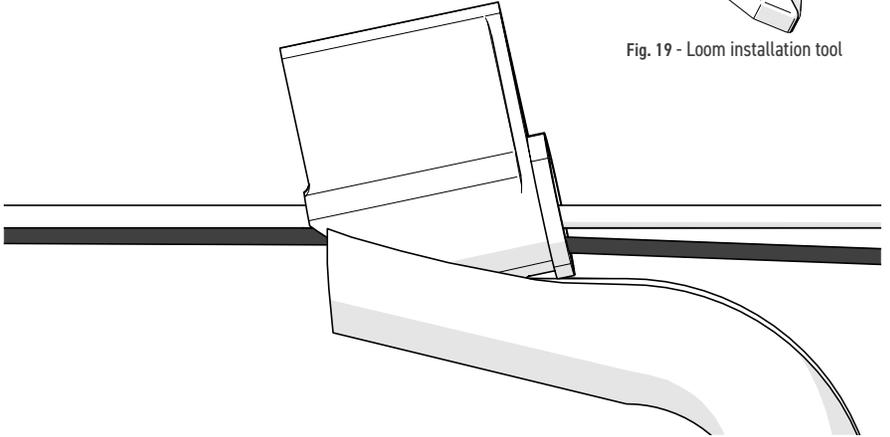

Fig. 20 - Wrap sleeving around cables and tubes using loom installation tool
2. Begin at one end of the sleeving; use the loom's shoe to open the sleeving and begin wrapping the open sleeve around the cables (*Fig. 20*).